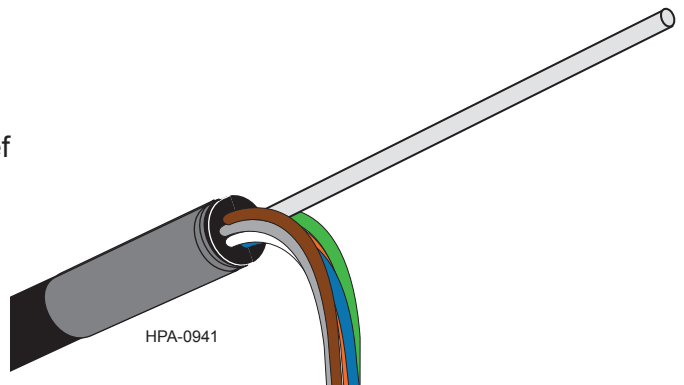

Figure 8
Step 12: Unwind and separate the buffer tubes from the central member. Cut the central member to the appropriate length for strain-relief in the hardware (Figure 8).
Step 13: For cable strain-relief hardware which clamps onto the jacket, place three layers of vinyl tape over the area where clamps make contact with the jacket (Figure 8).